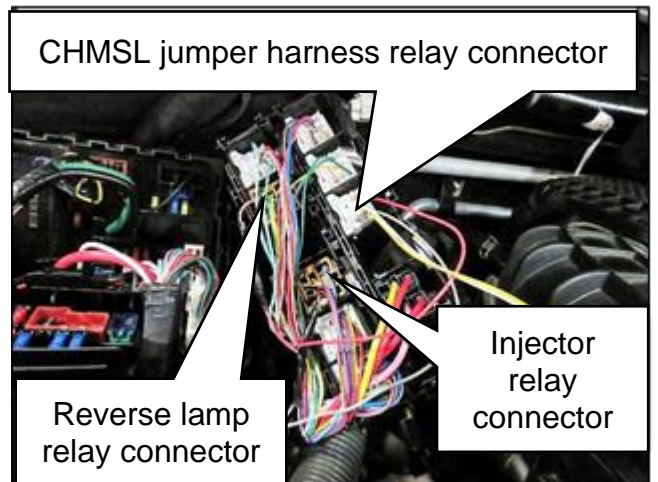

Figure 26
21. Insert the CHMSL relay connector from the CHMSL jumper harness into the open relay slot shown in Figure 26.
- Figure 26 shows CHMSL relay connector installed into the open relay slot